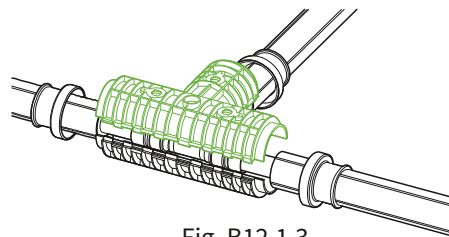

Fig. B12.1.3
2. Place the upper half-shell above the FibreFlex Press T-Branch, ensuring that the locking plugs along the adjoining surfaces of the half-shells fit each other (Fig. B12.1.3). For ease of installation, the outer locking plugs are made longer than the others.